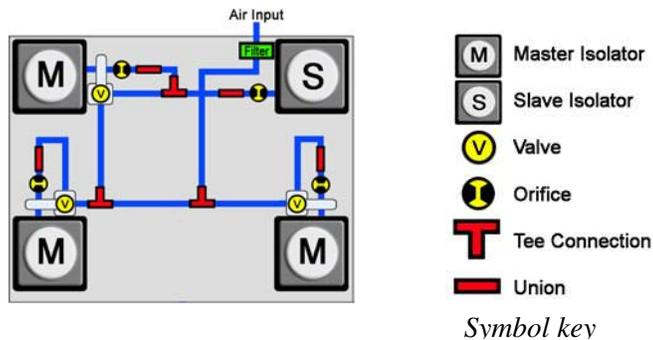

Figure 3 Valve schematic for a 4-isolator system
Step 5 Locate the three *height control valves* mounted on *isolators* as typically shown in figure above and referencing figures 3 earlier.